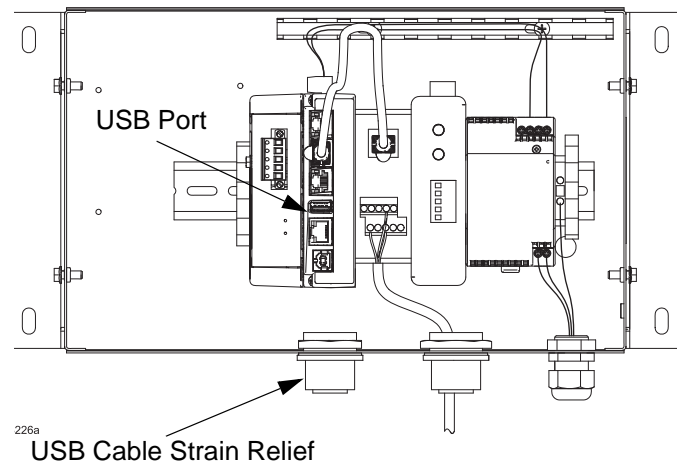

FIG. 18: Gateway Module USB Port
2. Connect the USB cable (23, supplied) between the USB port on the Gateway Module and a USB port on your PC. See FIG. 18.